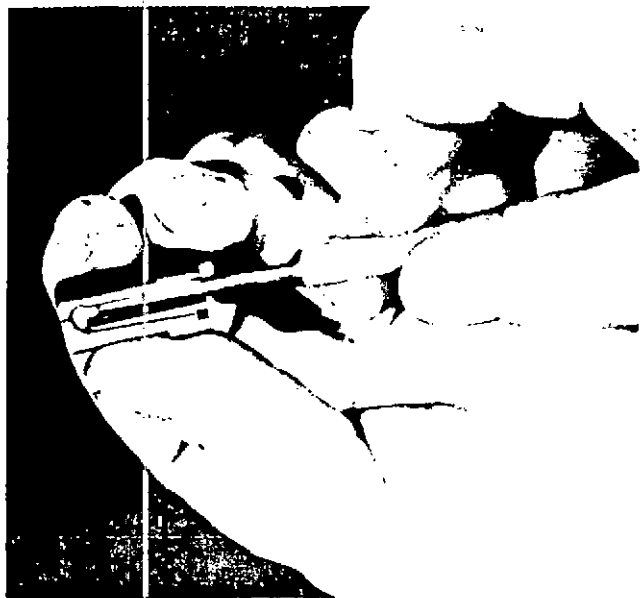

Figure 108
3. The inside of the nozzle body can be cleaned with brass scrapers included in the cleaning kit or if these tools are not available, by forming a piece of soft wood, soaked in oil, with a point corresponding to the nozzle valve seat angle. Clean the nozzles with a wood splinter. Figure 108 and 109.